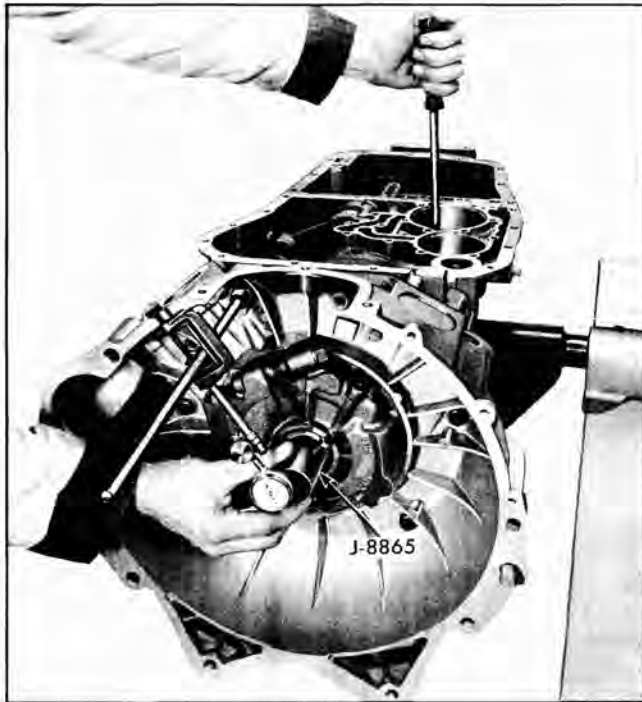

Fig. 131 Tool Set-Up for End Play Check
b. Install dial indicator support J-6126 into remaining hole in transmission case (Fig. 131).